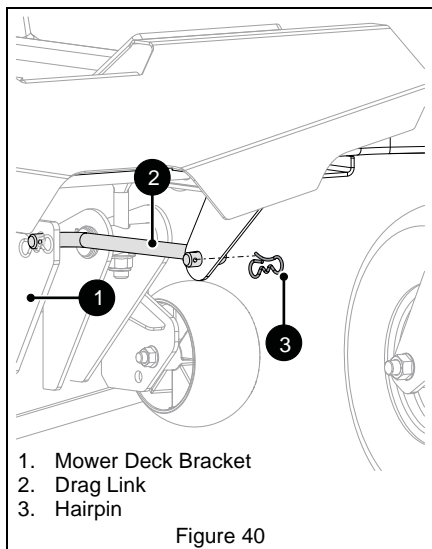

Figure 40
See Figure 40.
7. Reinstall drag link through mower deck bracket and secure with hairpin removed earlier. See Figure 40.